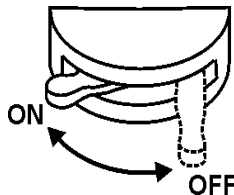

Figure 58. Battery ON/OFF Switch
2. Set the **battery ON/OFF switch** (Figure 58) to the **"ON"** position.